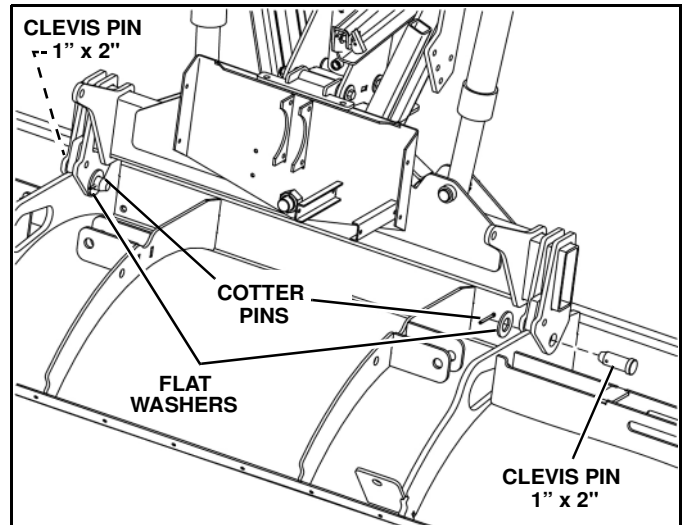

Figure 1-4
3. Remove swing frame from box. Place swing frame on blade and insert two 1" x 2" clevis pins from blade parts bag. The ribs on either side of the center rib should be between the swing frame lugs. (See Figure 1-4)